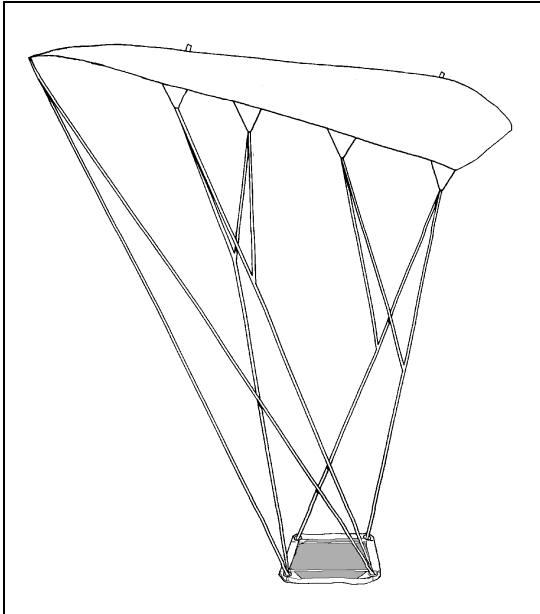

Figure 1.
Step 1.) Start with the Flight Concepts main canopy lying on its left side. (See Figure 1.) The harness must be placed facing down, with the top toward the canopy.